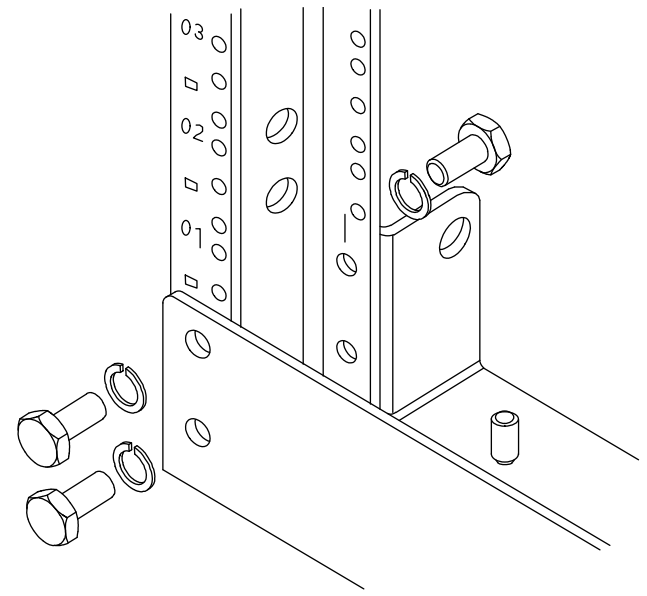

Figure 2
1. Fasten the Lower Cross Member to lower portion of rack rail. See Figure 2.